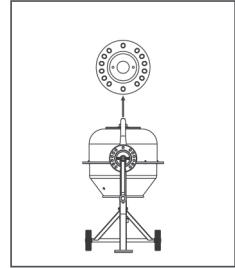

Fig.16
- Store and transport the device in the position described in Fig.16.